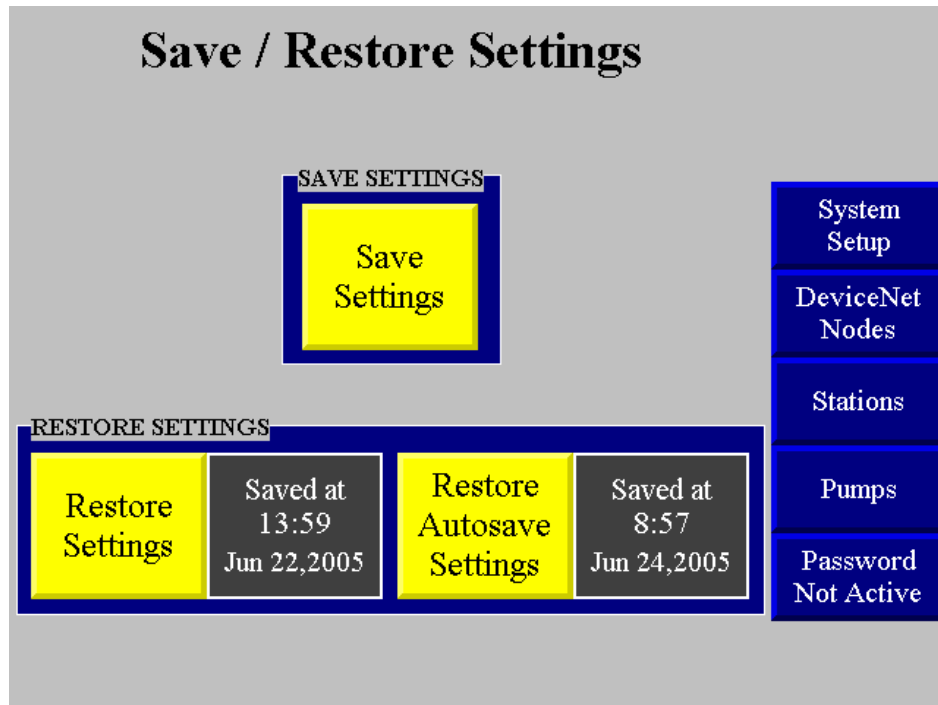

Fig 4
- Go to the **Save / Restore** Screen (Fig 4) by pressing the Save / Restore button on the right side of the screen.